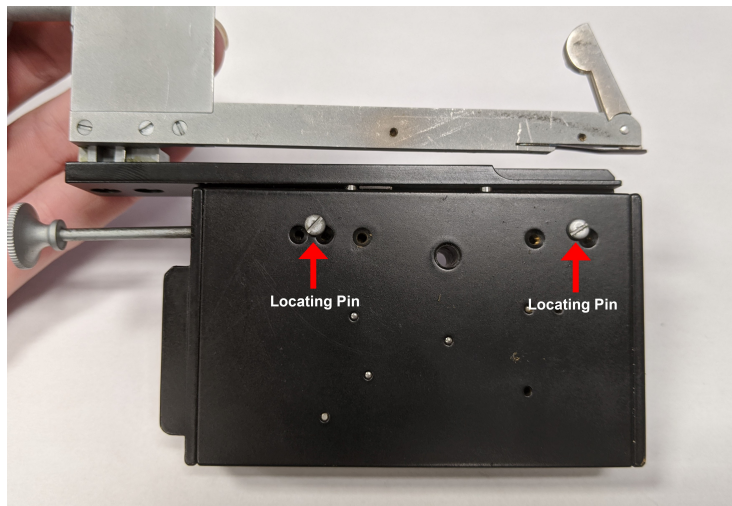

Figure 6: Call outs in red for the locations for locating pins of the back of the Swift/Hacker stag
1. Screw two locating screws into the locations shown below (Figure 6). For installation onto other microscopes you may need to move the locating screws. The Swift sample holder offers several options for different stages.